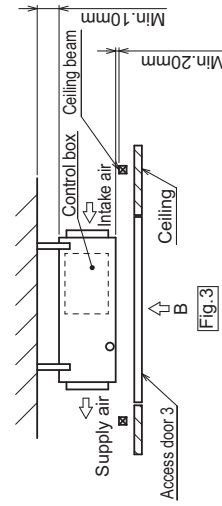

Fig. 3
- (2) When a space of less than 300mm is available below the unit between the unit and the ceiling. (At least 20mm of space should be left below the unit as shown in Fig. 3.)